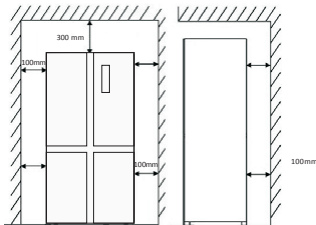

Fig. 1
- Ensure sufficient spacing is provided for the appliance to be installed. Leave space on both sides (100cm), back (100cm) and above the appliance (300cm) to ensure proper ventilation and door opening. See fig. 1&2